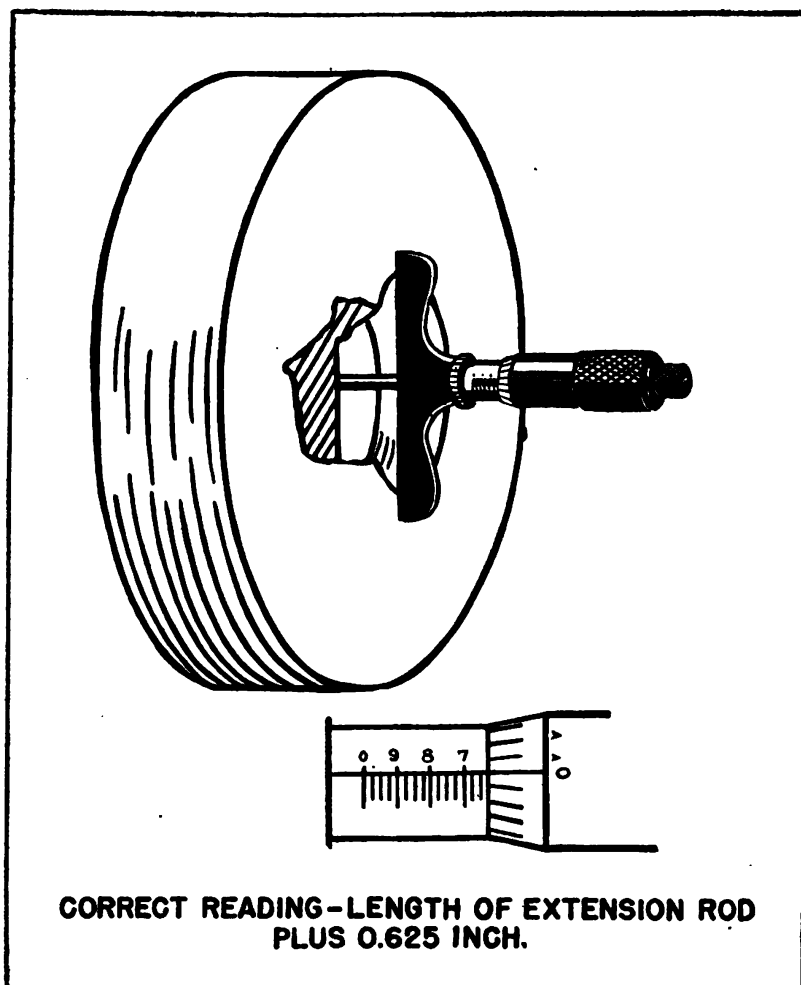

FIGURE 108.—Depth micrometer.
d. Measuring depth of recesses.—Figure 108 shows a depth micrometer used to measure the depth of a hole. The mechanic should first be sure that the surface of the work around the top of the hole is clean and smooth; any burrs should be removed with a fine, smooth, flat file. With the base of the micrometer set firmly against the flat surface, as shown, turn the sleeve *clockwise* until the pin just touches